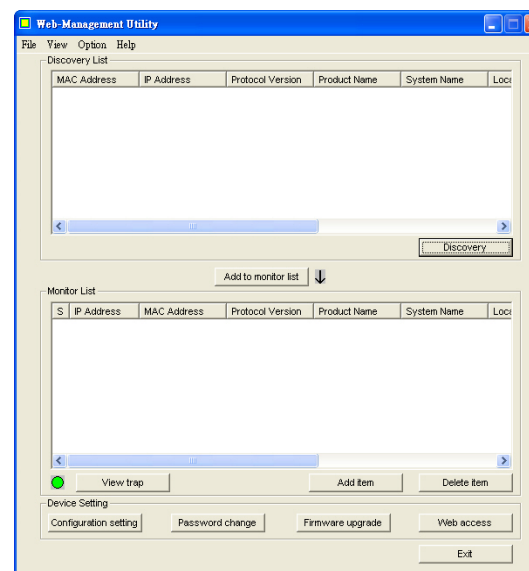

Figure 7. Web Management Utility
5. Upon completion, go to **Program Files** -> **web_management_utility** and execute the Web Management utility. (Figure 7.)